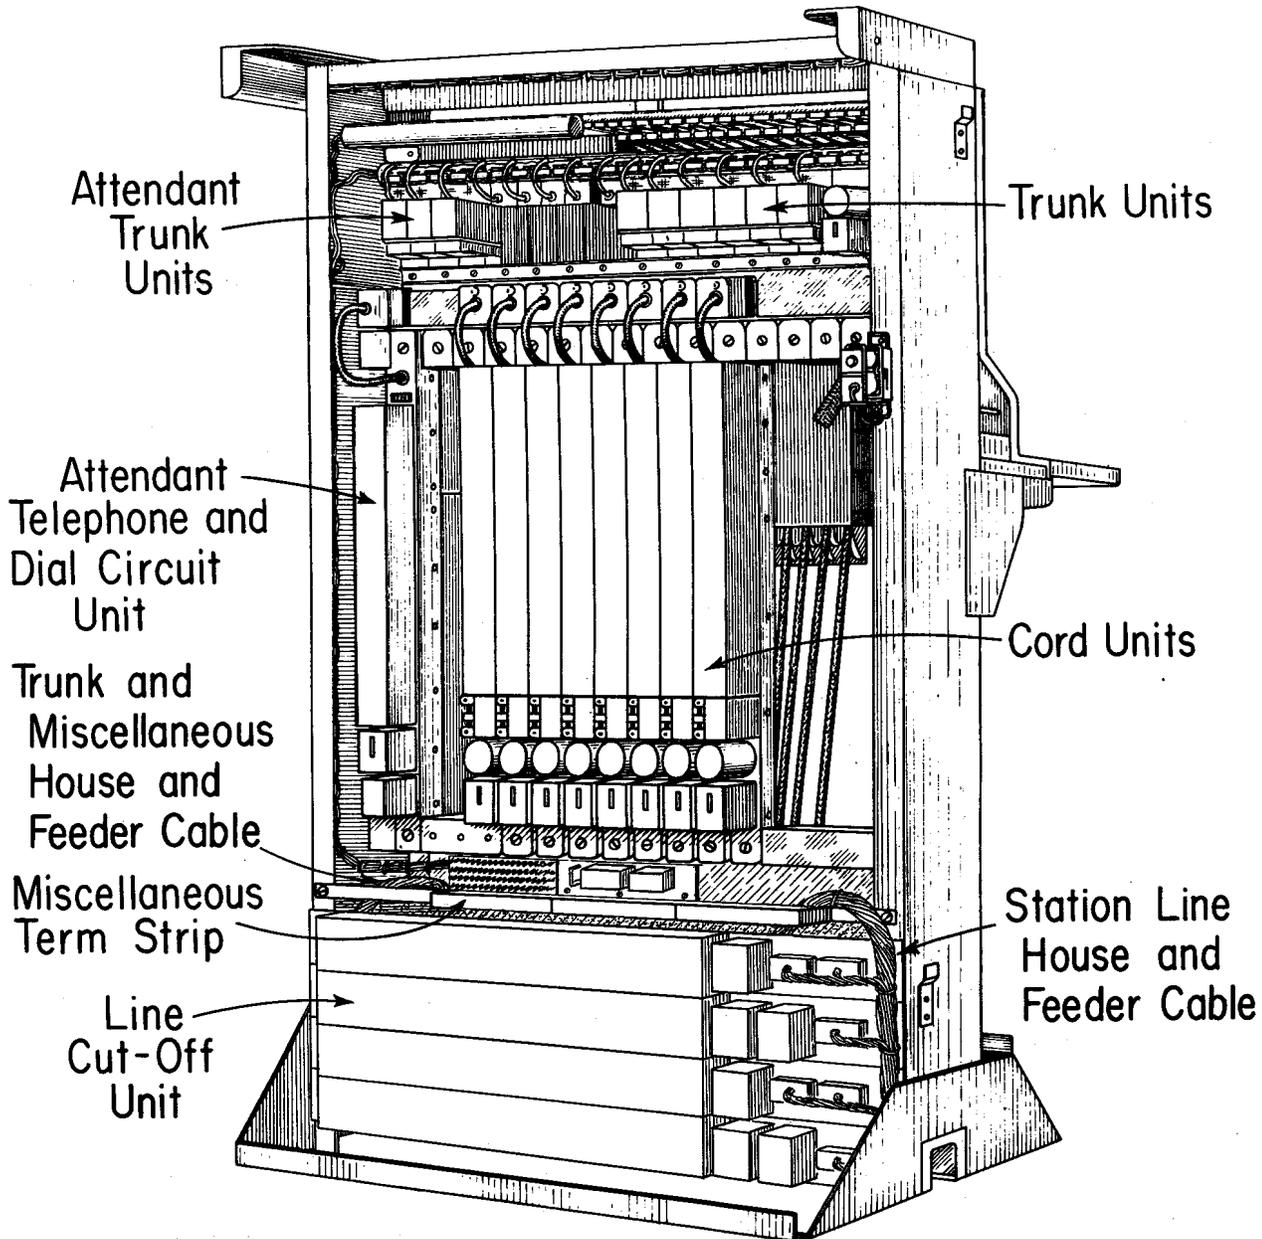

Fig. 5 — Rear View of 556A PBX
(a) *A station line house and feeder cable* (plug in), 100 feet long, for leads from the cross-connecting terminal to the line cutoff unit mounted in the bottom rear of the switchboard. This is a 100-pair cable. See Fig. 5.
(b) *A trunk and miscellaneous house and feeder cable*, 100 feet long, to extend central office trunk leads, attendant trunk leads, and other miscellaneous leads from a miscellaneous terminal strip in the bottom rear of the switchboard. This is a 50-pair cable. See Fig. 5.
3.13 The cables may enter the PBX through a hole in the floor or through the cable entrance hole provided in the side of the PBX. (See Fig. 5.)